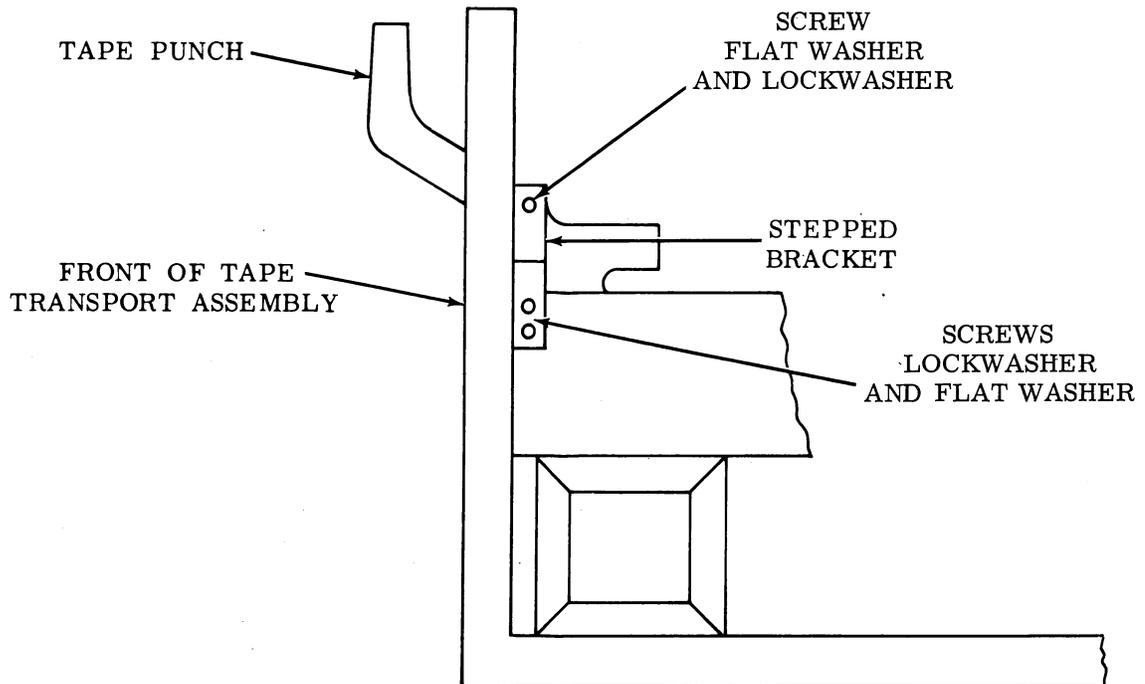

Figure 8 - Tape Transport Assembly Shipping Hardware
2.15 Remove the stepped bracket and its hardware from right side of the punch unit (Figure 8).